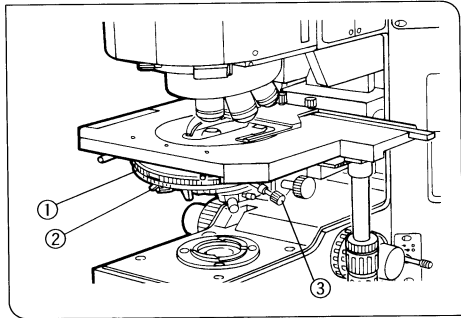

Fig. 42
(Figs. 42, 43, 44, 45)
1. Rotate the turret ① to select the light path for BF brightfield observation (no optical element engaged into the light path).
4. Rotate the aperture iris diaphragm lever ② clockwise to open the aperture iris diaphragm.
5. Rotate the field iris diaphragm ring ③ to open the field iris diaphragm. (Fig. 42)
9. Gradually open the field iris diaphragm. Turn the condenser centering screw ③ to move the iris diaphragm image to the center of the field of view. (The condenser is properly centered if the iris image is centered and inscribed in the field of view.) (Fig. 42)